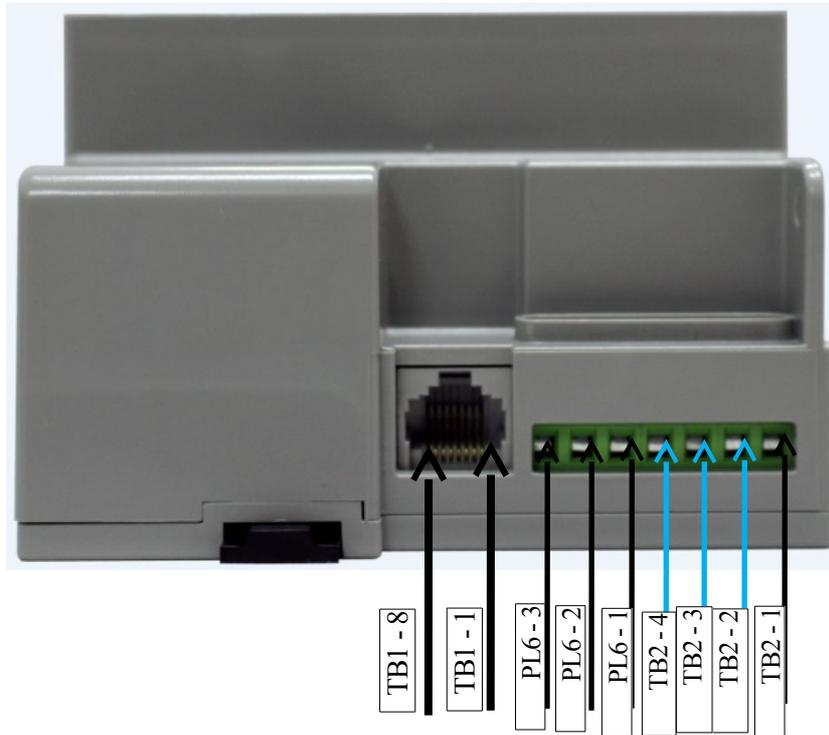

Figure 5 - Location of Mk10H Connectors.
- See Figure 5 for the location of the RJ45 connector. It is designated as TB1.
See Figure 5 for the location of the connector.